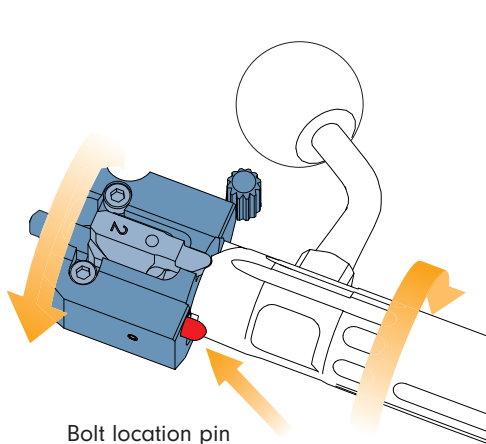

Fig 3-2
- Depress the bolt location pin with the right thumb and rotate the shroud assembly as shown in Fig 3-2 until the shroud assembly can be withdrawn.